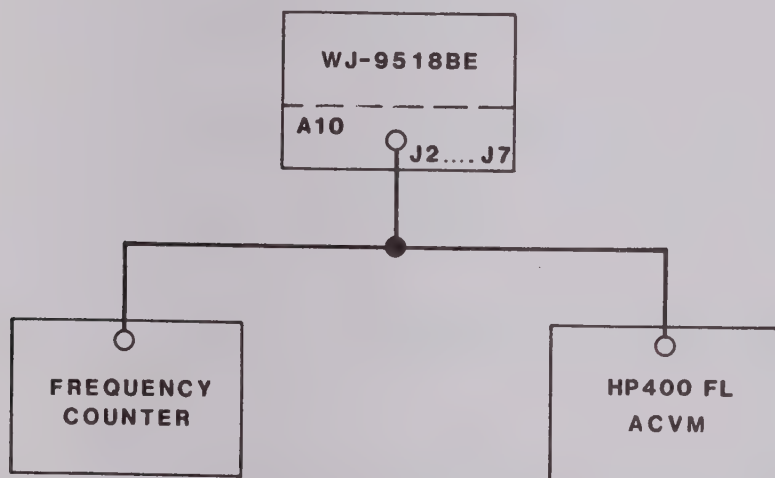

Figure 4-4. 3rd LO Performance Test, Equipment Connections
1. Connect the test equipment as illustrated in **Figure 4-4**.